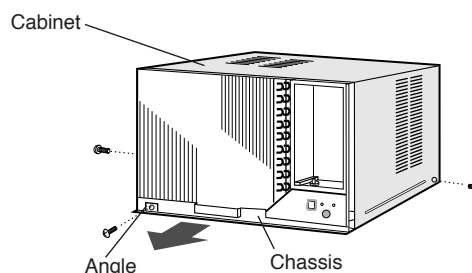

Fig.4
- 2** (1) Unscrew the 3 stopper screws of the cabinet (Fig.4). Keep the front screw and the angle as they will be used later in step 5.
- (2) Slide the chassis out from the cabinet by pulling on the hand hold located at the bottom center of the chassis. (Fig.4)